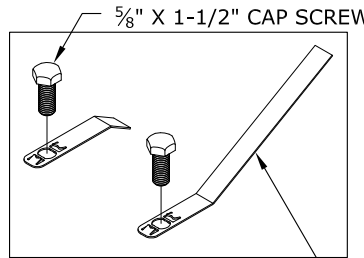

FIGURE C1: Bolt Guides
1. **Assemble bolt guides.** Assemble the bolt guides by threading a $\frac{5}{8}$ " bolt onto each guide as shown in figure C1 and C2. Tighten the bolt onto the guide so that the shoulder of the bolt head is flush with the surface of the bolt guide. This is designed to be a tight fit. A wrench may be needed to thread the bolts onto the bolt guides. The notches of the bolt guide must engage the corners of the bolt head so that the bolt is prevented from "backing off" of the guide. The notches of the bolt guide may have to be pried up if they were smashed down when the bolt was tightened down.